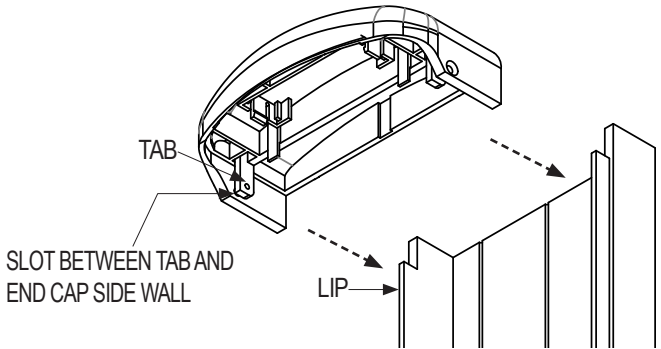

Figure 4.4 End Cap Alignment
16. Match and insert the Back Box Lips into the Slots between the End Cap Tabs and the End Cap Side Walls. (Figure 4.4)